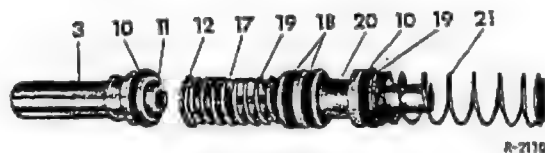

Fig. 42-3a/22
10. Screw the connecting screw (14) into the intermediate piston (20) together with the piston stop washer (13), the pressure spring (17) and the spring retainer (12) (Figs. 42-3a/20 and 22).
Note: Do not leave out the piston stop washer (13) which is a stroke limitation for the piston of the push rod circuit (Fig. 42-3a/17).